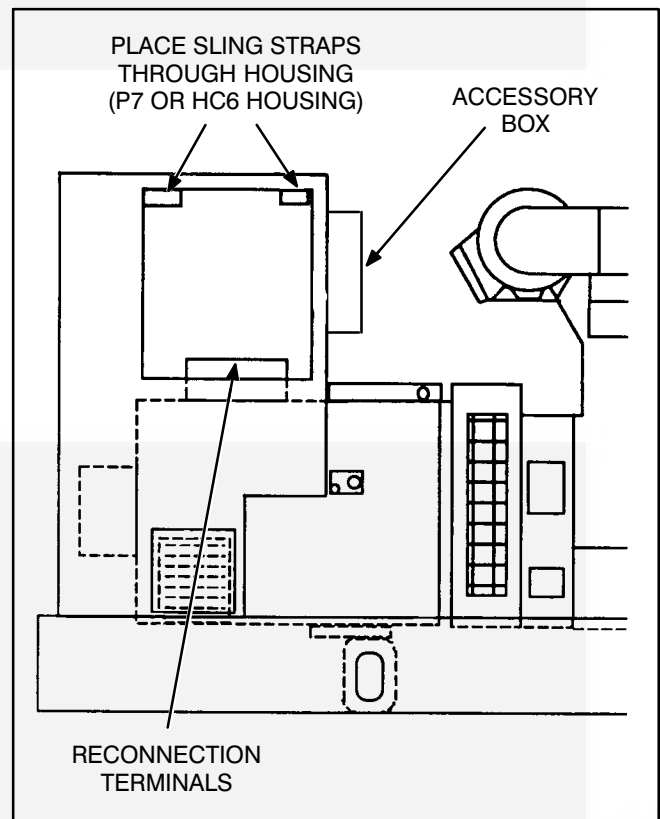

FIGURE 6-9. REMOVING CONTROL HOUSING
6. Use a hoist or similar lifting device to support the control housing assembly (see Figure 6-9).